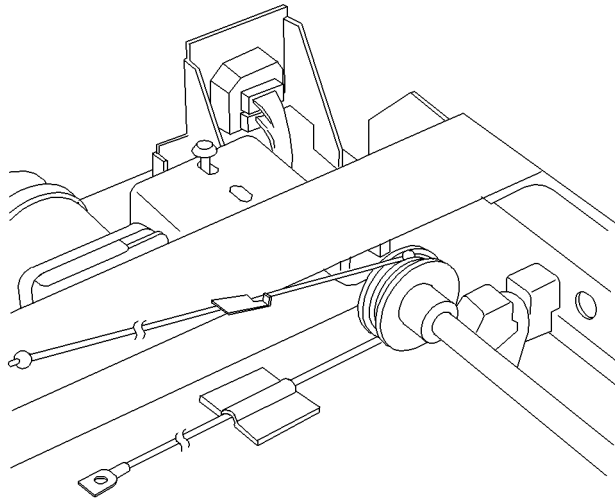

Figure 5 Locking Cable
- b. Wind cable (spring hook side) onto pulley for 2.5 turns. Tape and lock cable (on spring hook) on frame (Figure 5).